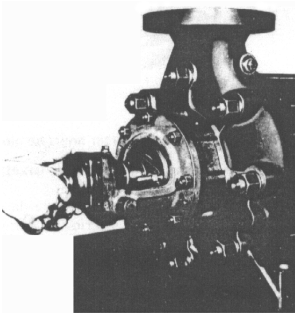

Fig. 1
- Drain the oil from the Bearing Block. Loosen the screw that fixes the Bearing Block Cover, and then remove it. (See fig. 1)